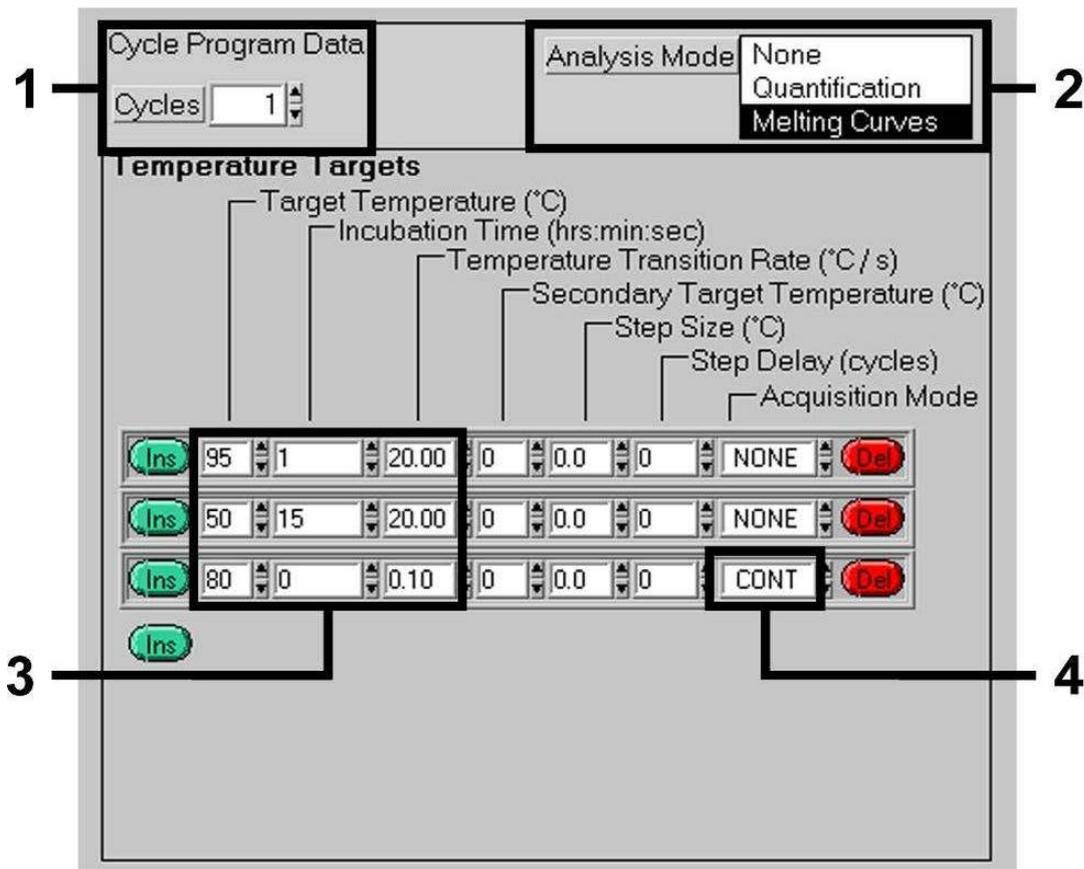

Fig. 6: Melting Curve.
- D. Melting Curve (**optional**) Fig. 6